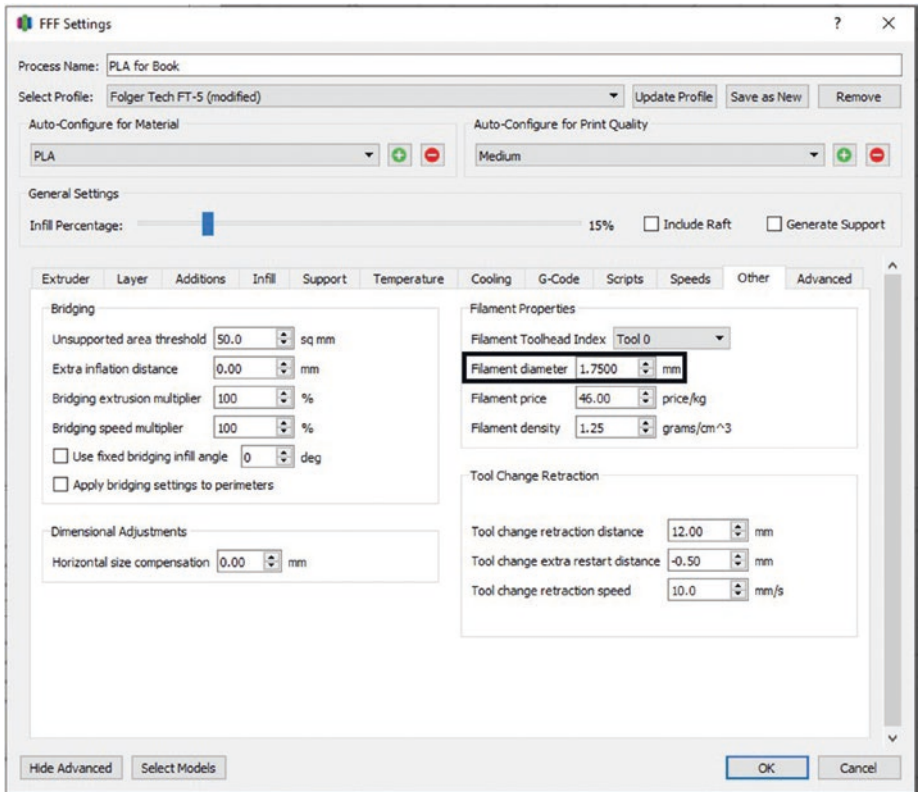

Figure 4-29. Other tab
11. Tab 11: Other (see Figure 4-29)